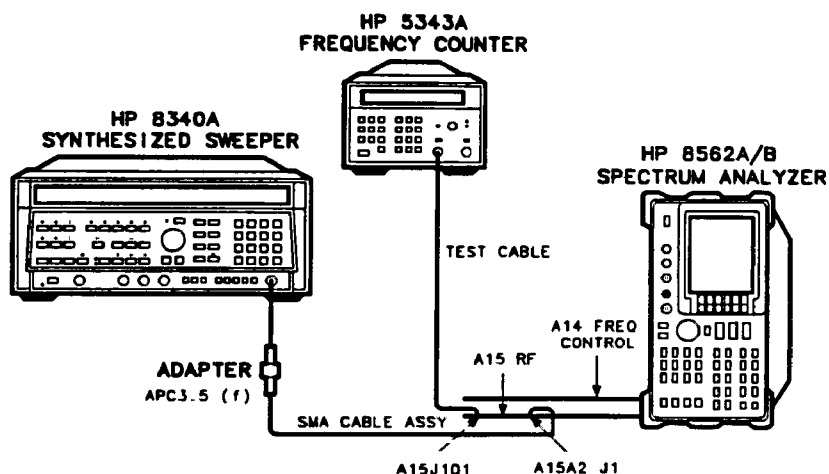

Figure 11-2. Sampler and Sampling Oscillator Test Setup
19. Connect a frequency counter to A15J101. Connect a high-frequency test cable from an HP 8340A Synthesized Sweeper to A15A2J1. See Figure 11-2.